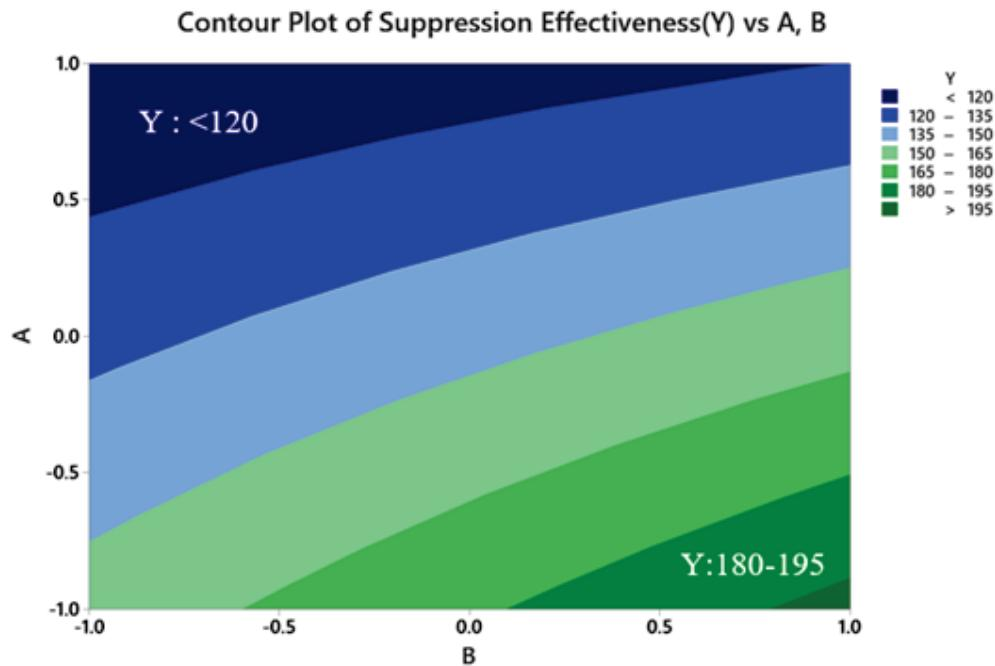

Figure 5.2: Contour plot of Suppression Effectiveness(Y) vs A (Surfactant), B (Initial coal dust concentration).
- (iv). Based on the contour plot given in Figure 5.2, perform an analysis of A*B interaction on Suppression Effectiveness (Y) and provide your recommendation to optimize the results of Suppression Effectiveness (Y).
*Berdasarkan plot kontur yang diberikan dalam Rajah 5.2, lakukan analisis interaksi A*B pada Keberkesanan Penindasan (Y) dan berikan cadangan anda untuk mengoptimalkan keputusan Keberkesanan Penindasan (Y).*